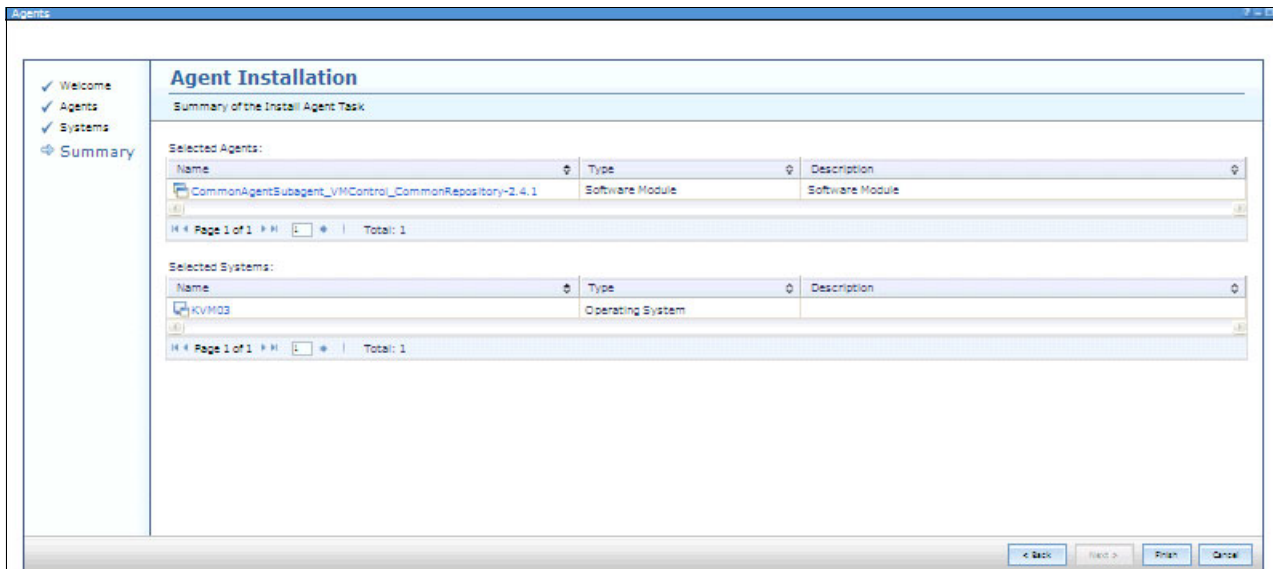

Figure 9-37 Agent installation summary
- Check the summary that shows you the agent and the target for installation as shown in Figure 9-37, then click **Finish**.